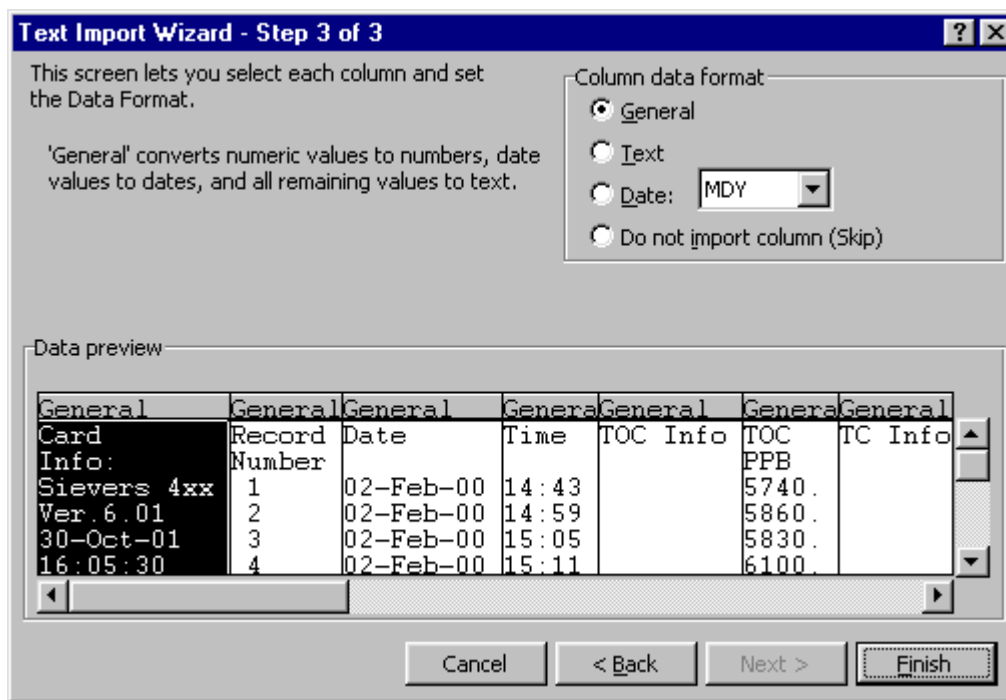

Figure 47: Step 3 of the MS Excel Text Import Wizard
- Excel shows a preview of the data that will be imported. If desired, you can highlight a column and assign a **Column data format** (Figure 47). Press **Finish** to continue.